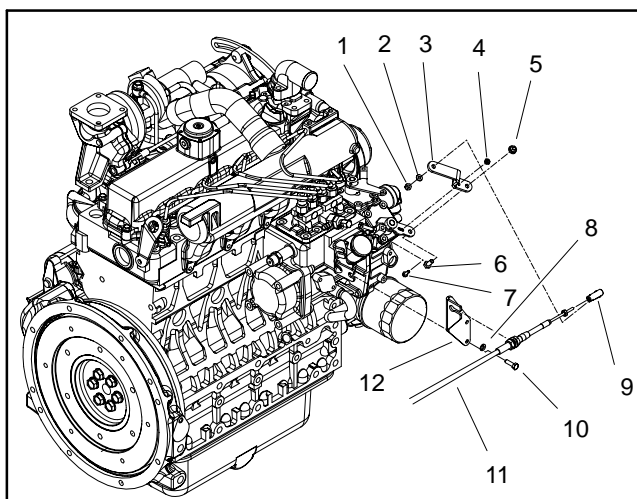

Figure 14
9. Disconnect throttle cable from the speed control lever by removing the flat washer and lock nut (Fig. 14). Loosen jam nut and separate cable from cable support. Position cable away from engine.
8. Connect throttle cable to the speed control lever with washer and lock nut (Fig. 14). Secure cable to cable support. Adjust throttle cable.